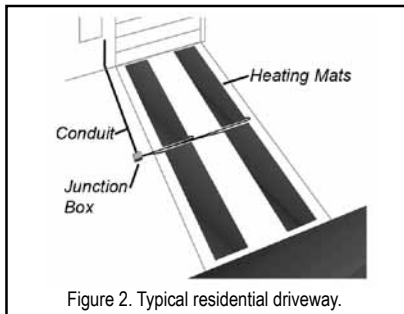

Figure 2. Typical residential driveway.
- A typical residential driveway is effectively kept ice free by installing one length of heating mat underneath only the area where automobile tires travel (see Figure 2). This helps reduce power consumption and energy cost.